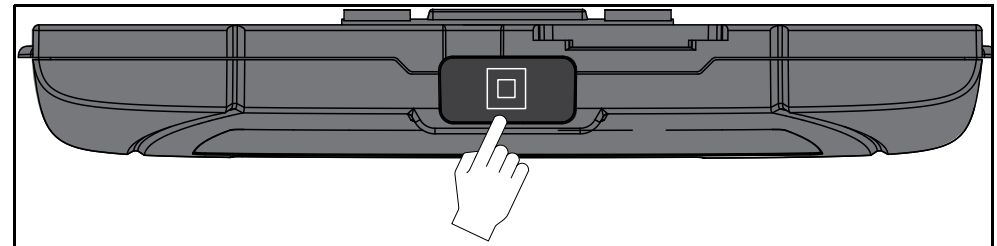

Figure 9-5 Scope Module USB jack location
3. Locate the USB jack on the bottom of the Scope Module (Figure 9-5).